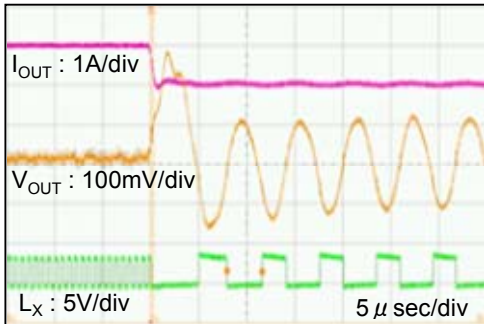
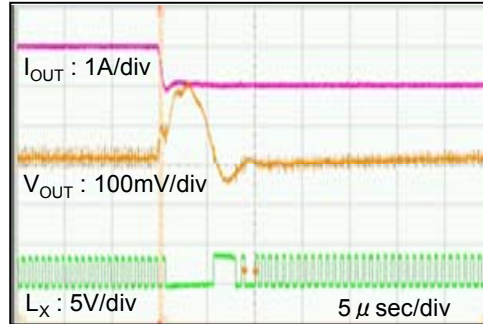
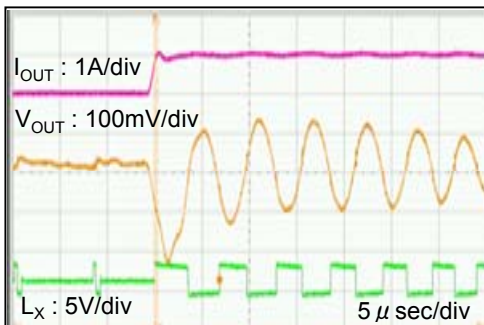

Fig.14-1 Insufficient C_L ($T_a = -40^\circ\text{C}$, $C_L = 10\ \mu\text{F}$)
Fig.14-2 Sufficient C_L ($T_a = -40^\circ\text{C}$, $C_L = 20\ \mu\text{F}$)
Fig.14-3 Insufficient C_L ($T_a = -40^\circ\text{C}$, $C_L = 10\ \mu\text{F}$)
14. If the capacitance value is not sufficient by degrading C_L due to the low temp. condition and DC bias feature, 100% duty cycle might come up for the load transient condition. Add capacitance value for C_L if necessary. (Refer to Fig14-1, Fig14-2, Fig14-3, Fig.14-4)